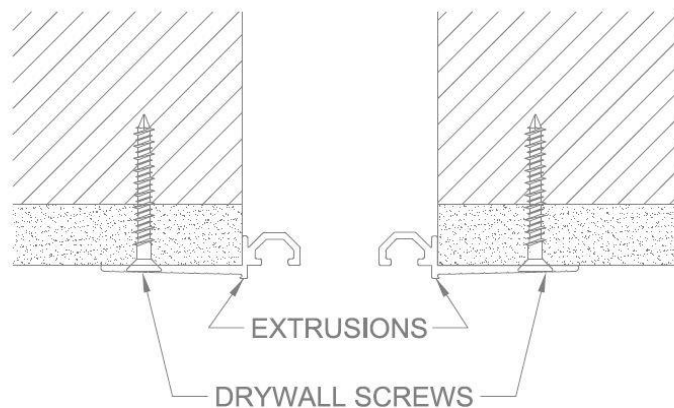

FIGURE 1
1. Position base member frames in expansion joints per shop drawings. Attach with screws (by installer) through the gypsum wallboard and into the structural support. If attaching into concrete, use the frames as a template, mark, and drill Ø5/32" holes in the concrete. Install base member frames with Ø3/16" Tapcon fasteners (by installer). **See Figure 1.**